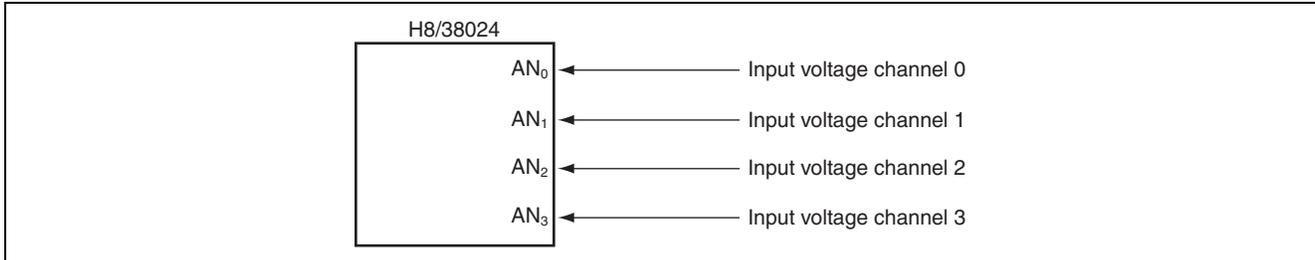

Figure 1.1 Voltage Measurement by 4-Channel A/D Conversion
2. As shown in figure 1.1, voltage signals are input to the H8/38024 through four channels and their A/D-converted results are stored in RAM.